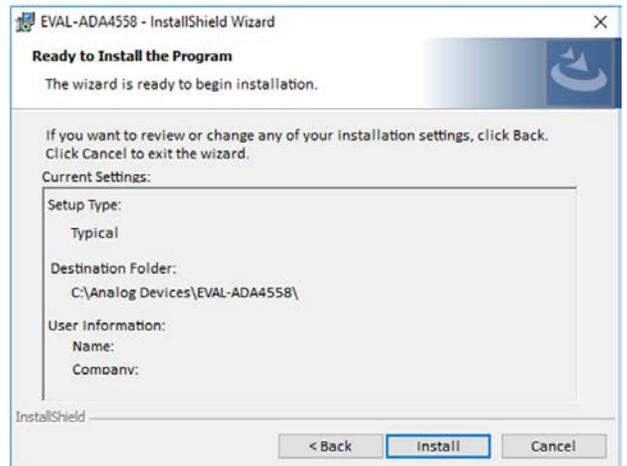

Figure 4. EVAL-ADA4558EBZ Software Installation: Wizard Summary
5. A wizard summary then displays. Click **Install** (see Figure 4).